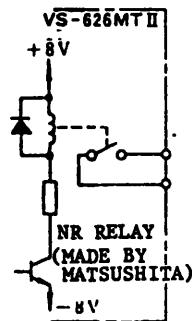

Fig. 2.7 Output Circuit
- . Fig. 2.7 shows the output circuit, and Table 2.12 gives functions of the output signals.